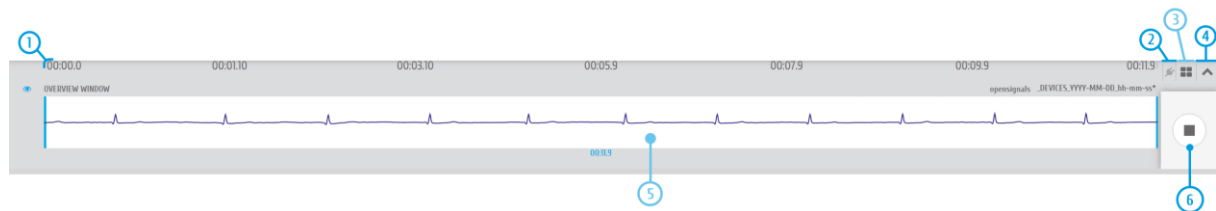

Figure 104: Control bar.
- Time axis (x-axis; 1 in Figure 104)
- Access *OpenSignals (r)evolution* add-ons (2 in Figure 104)
- Multi-channel visualization modes (3 in Figure 104)
- Hide/Unhide all channels (4 in Figure 104)
- Overview window (x-axis adjustments; 5 in Figure 104)
- Return to *OpenSignals*' main interface (6 in Figure 104)